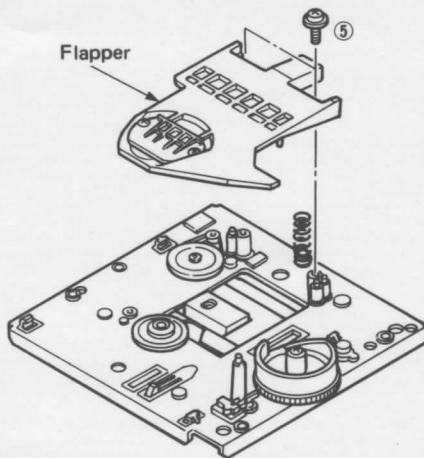

Fig. 4
a. Remove 2 screws (5) fixing Flapper in Fig. 4 and then remove the flapper.